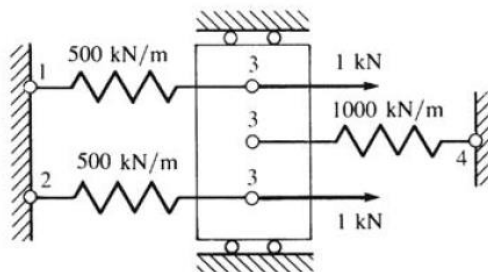

Figure 1
- 1A.** For the spring assemblage shown in Figure 1. Determine the nodal displacements, the forces in each element. **(05)**